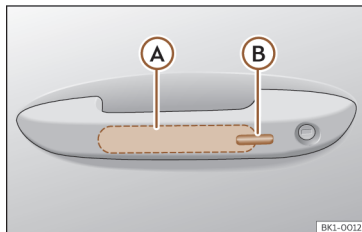

Fig. 77 Door handle: sensor surfaces.
>>> Fig. 77
• Touch the sensor surface Ⓑ >>> Fig. 77 on the outside of the door handle. All turn signals flash once.
- Within 5 seconds, touch the sensor on the outside of the door handle once >>> **Fig. 77** . Do not grip the handle while doing so. This temporarily deactivates the Keyless Access system.